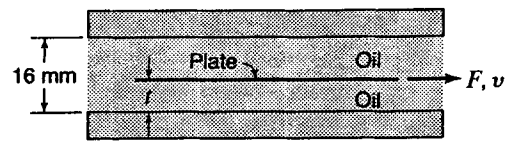

Figure X2.11.8
- 2.11.8 A space 16 mm wide between two large plane surfaces is filled with SAE 30 Western lubricating oil at 35°C (Fig. X2.11.8). What force F is required to drag a very thin plate of 0.4-m² area between the surfaces at a speed $v = 0.25$ m/s (a) if this plate is equally spaced between the two surfaces? (b) If $t = 5$ mm? Refer to Appendix A.